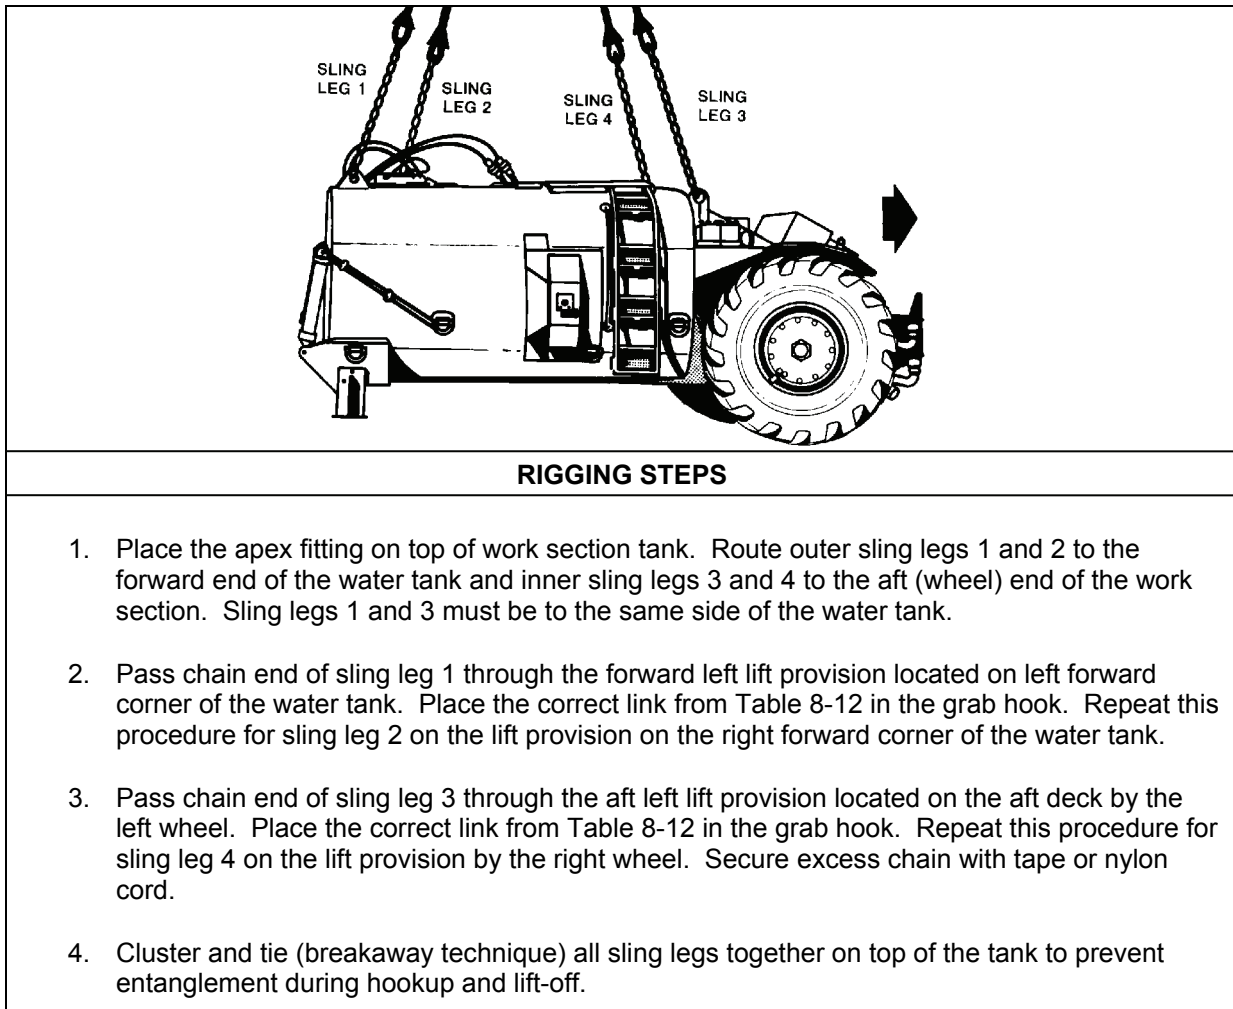

Figure 8-12a. 613WDS Water Distributor (Work Section)
- **Rigging.** Rig the load according to the steps in Figures 8-12a and 8-12b.